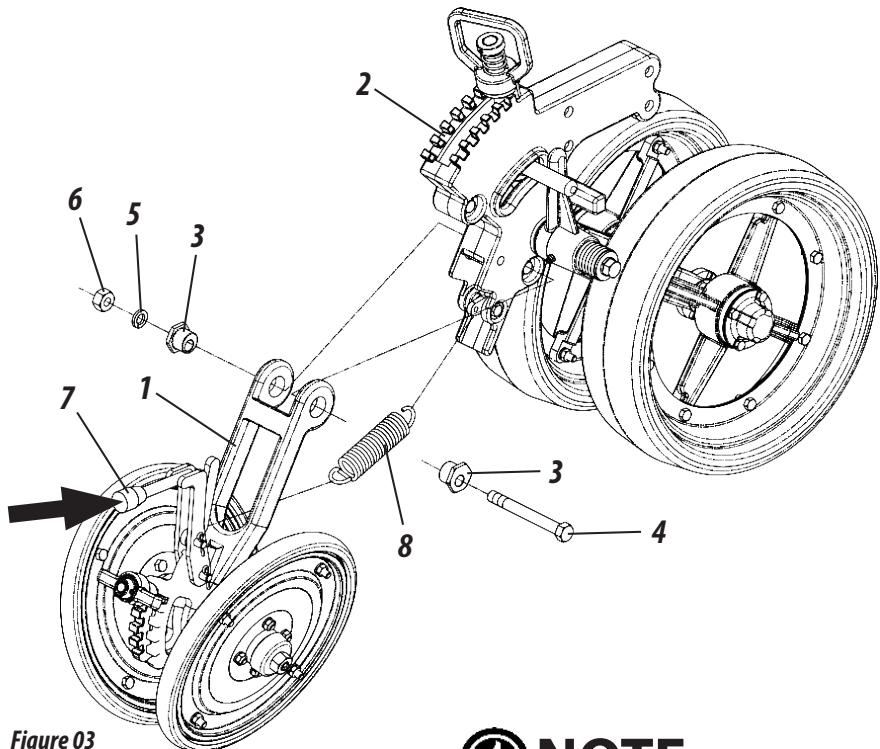

Figure 03
*Before starting to assemble the coupler head (1), look for an ideal location to facilitate the identification of components and the assembly of the coupler head.*
**COMPACTOR WHEEL ASSEMBLY (FIGURE 03)**